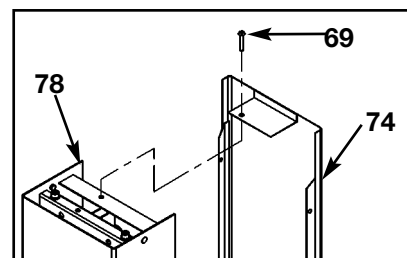

Figure 3
3. Unpack the carton containing the column (see steps 3A - 3F and Figures 3 - 7).
- C.** For Free Standing units containing a back cover, remove the BHSCS .375-16 x 2.00 (#69) securing the back cover (#74). Remove back cover by sliding it then lifting it upward. See Figure 3.